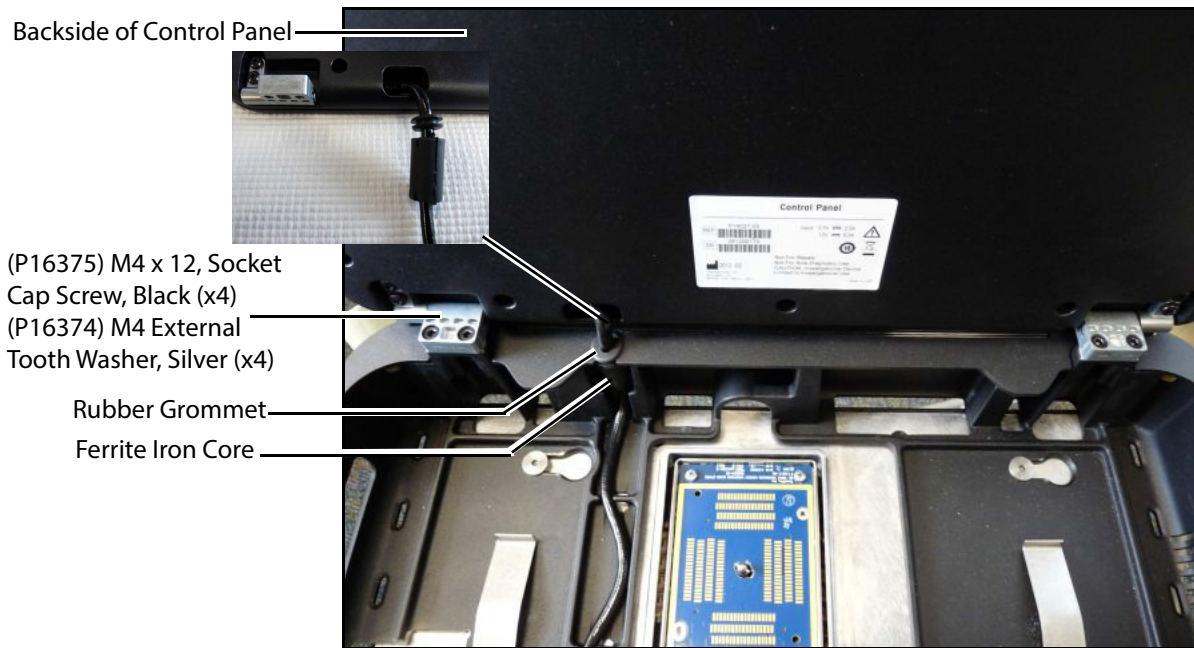

Figure 6.7 Control Panel Mount
- 5 At the vertical cable retention, carefully pry out the rubber grommet and the cylindrical ferrite iron core. It may require some of the cable to be fed up from the bottom to loosen the cable. Refer to Figure 6.7 on page 40.
- 2 Refer to Figure 6.6 on page 39 and Figure 6.7 on page 40.